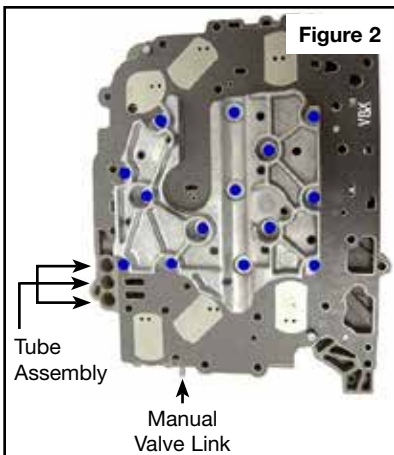

Figure 2
- e. Install separator plate, separator plate gasket and U-shaped housing onto valve body (**Figure 2**). Use a little assembly lube on the separator plate to hold the separator plate gasket in place so it does not move and get damaged.
- f. Install fourteen valve body bolts as indicated by the circles (**Figure 2**). Torque bolts to 50 in-lb starting in the center and working around the outside in circular pattern.
- a. Install the valve body onto case aligning manual valve and the three tubes in the tube assembly with the valve body (**Figure 2**). The dowels should drop into the holes on the case.